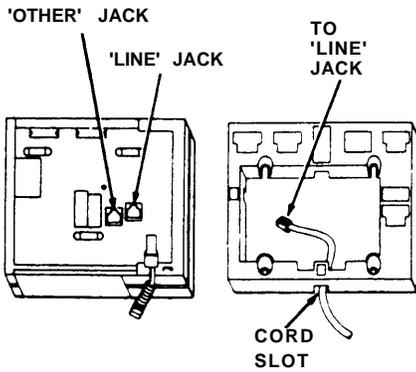

Figure 8
- Thread one end of the D8W Modular Cord up through the cord slot in the wall mount, and plug the cord into the jack labeled "LINE" on the back of the voice terminal (see Figure 8).